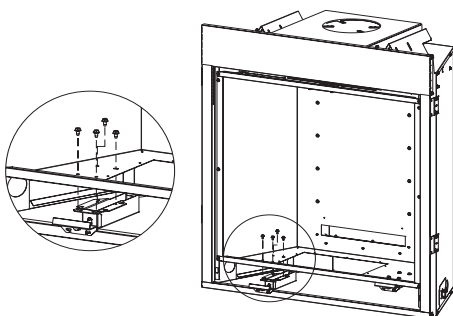

Figure 13
9. For DVCP Fireplace: Remove the four #10 x 1/2 screws securing the latch assembly to the underside of the firebox and set aside. **See Figure 13.**
For DVCX Appliances: Remove the five #10 x 1/2 screws securing the latch assembly to the underside of the firebox and set aside. **See Figure 13.**
12. Reinstall the latch assembly removed in step 9. **See Figure 13.**